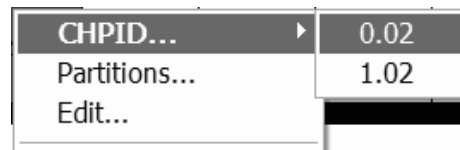

Figure 14. Context menu of a spanned CHPID in a vertical processor view
1. In the vertical processor view, you can see only one (physical) instance of a spanned CHPID. Nevertheless, in such a case, you can get information about all logical instances from such a CHPID's context menu (see Figure 14).